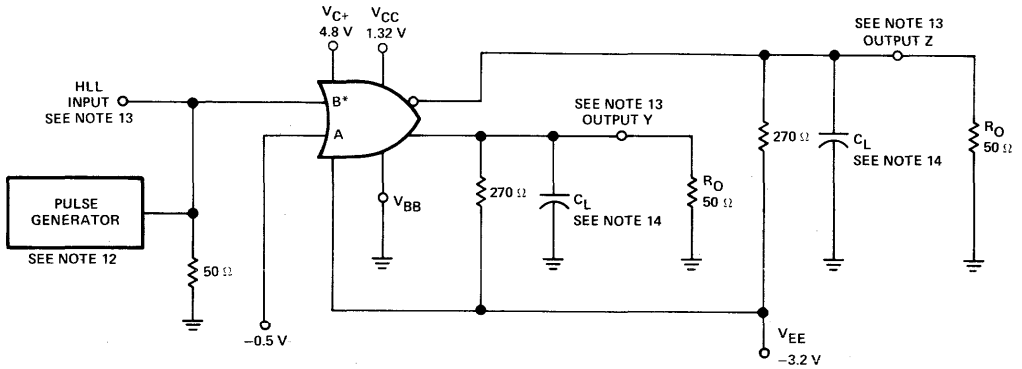

FIGURE 10—ECL2536 PROPAGATION DELAY AND TRANSITION TIMES (HLL INPUT)
ECL2536 using HLL inputs (see figure 10)
11. Bias voltages and loads for the gate under test are shown in Figures 10 through 12. Unused gates have inputs biased as shown in Figure 2 for the ECL2536 or Figure 6 for the ECL2537, outputs under load, and power applied.